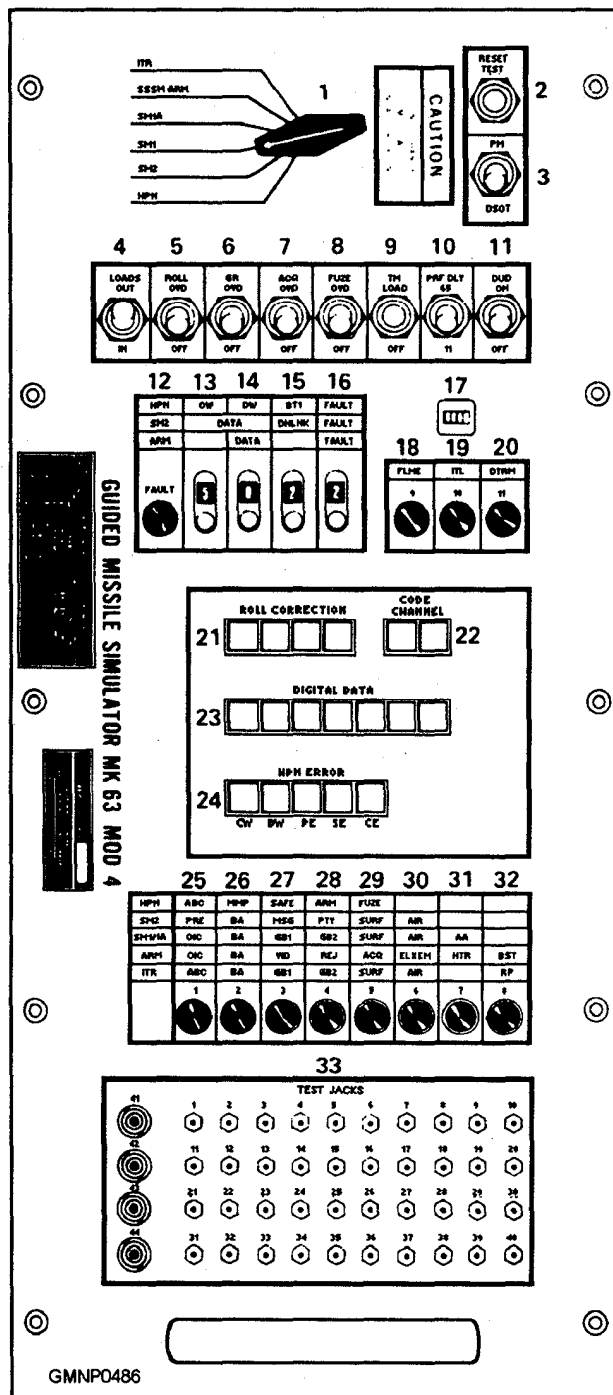

Figure 10-22.—Mk 63 Mod 5, 6 front panel of the guided missile simulator.
The Mk 63 Mod 5, 6 GMS is a very versatile electronic unit. Figure 10-22 shows the front panel of the simulator. The GMS furnishes the electrical loads, voltages, frequencies, and responses for any of the six missile types mentioned earlier. Around identification switch (item 1 in the figure) selects the correct circuits